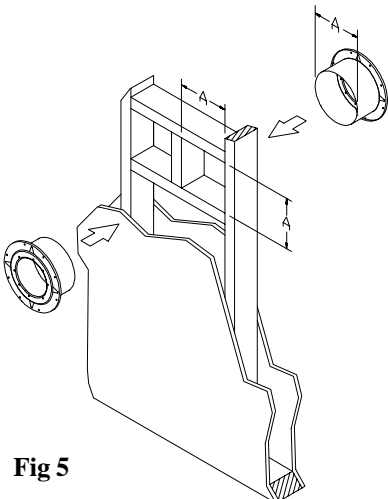

Fig 5
4. Wall Thimble. For a through-the-wall system, install the **Wall Thimble**, as shown in Figure 5. The **Wall Thimble** is designed to accommodate walls up to 6 inches thick. If you have thicker walls, a sleeve extension should be fabricated and attached to the existing sleeve. **Do not** fill the air space between the B-vent **Pipe Section** and the **Wall Thimble** with insulation, although an RTV-type sealant may be applied around the flange and nail heads if desired.